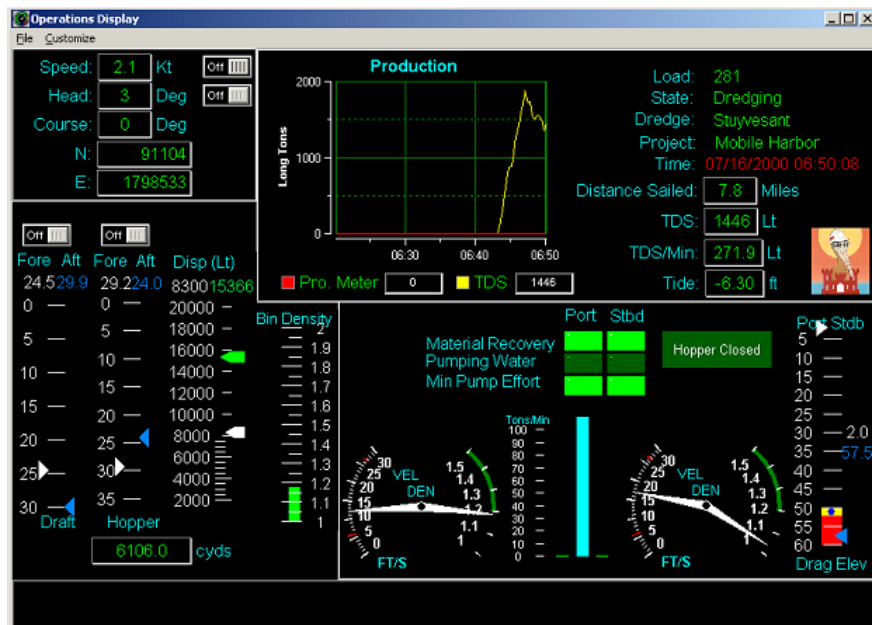

Figure 3.2 Onboard Dredge Display.
2. In the control center window, Click **Show Display**. The Onboard display will then appear as shown in Figure 3.2.